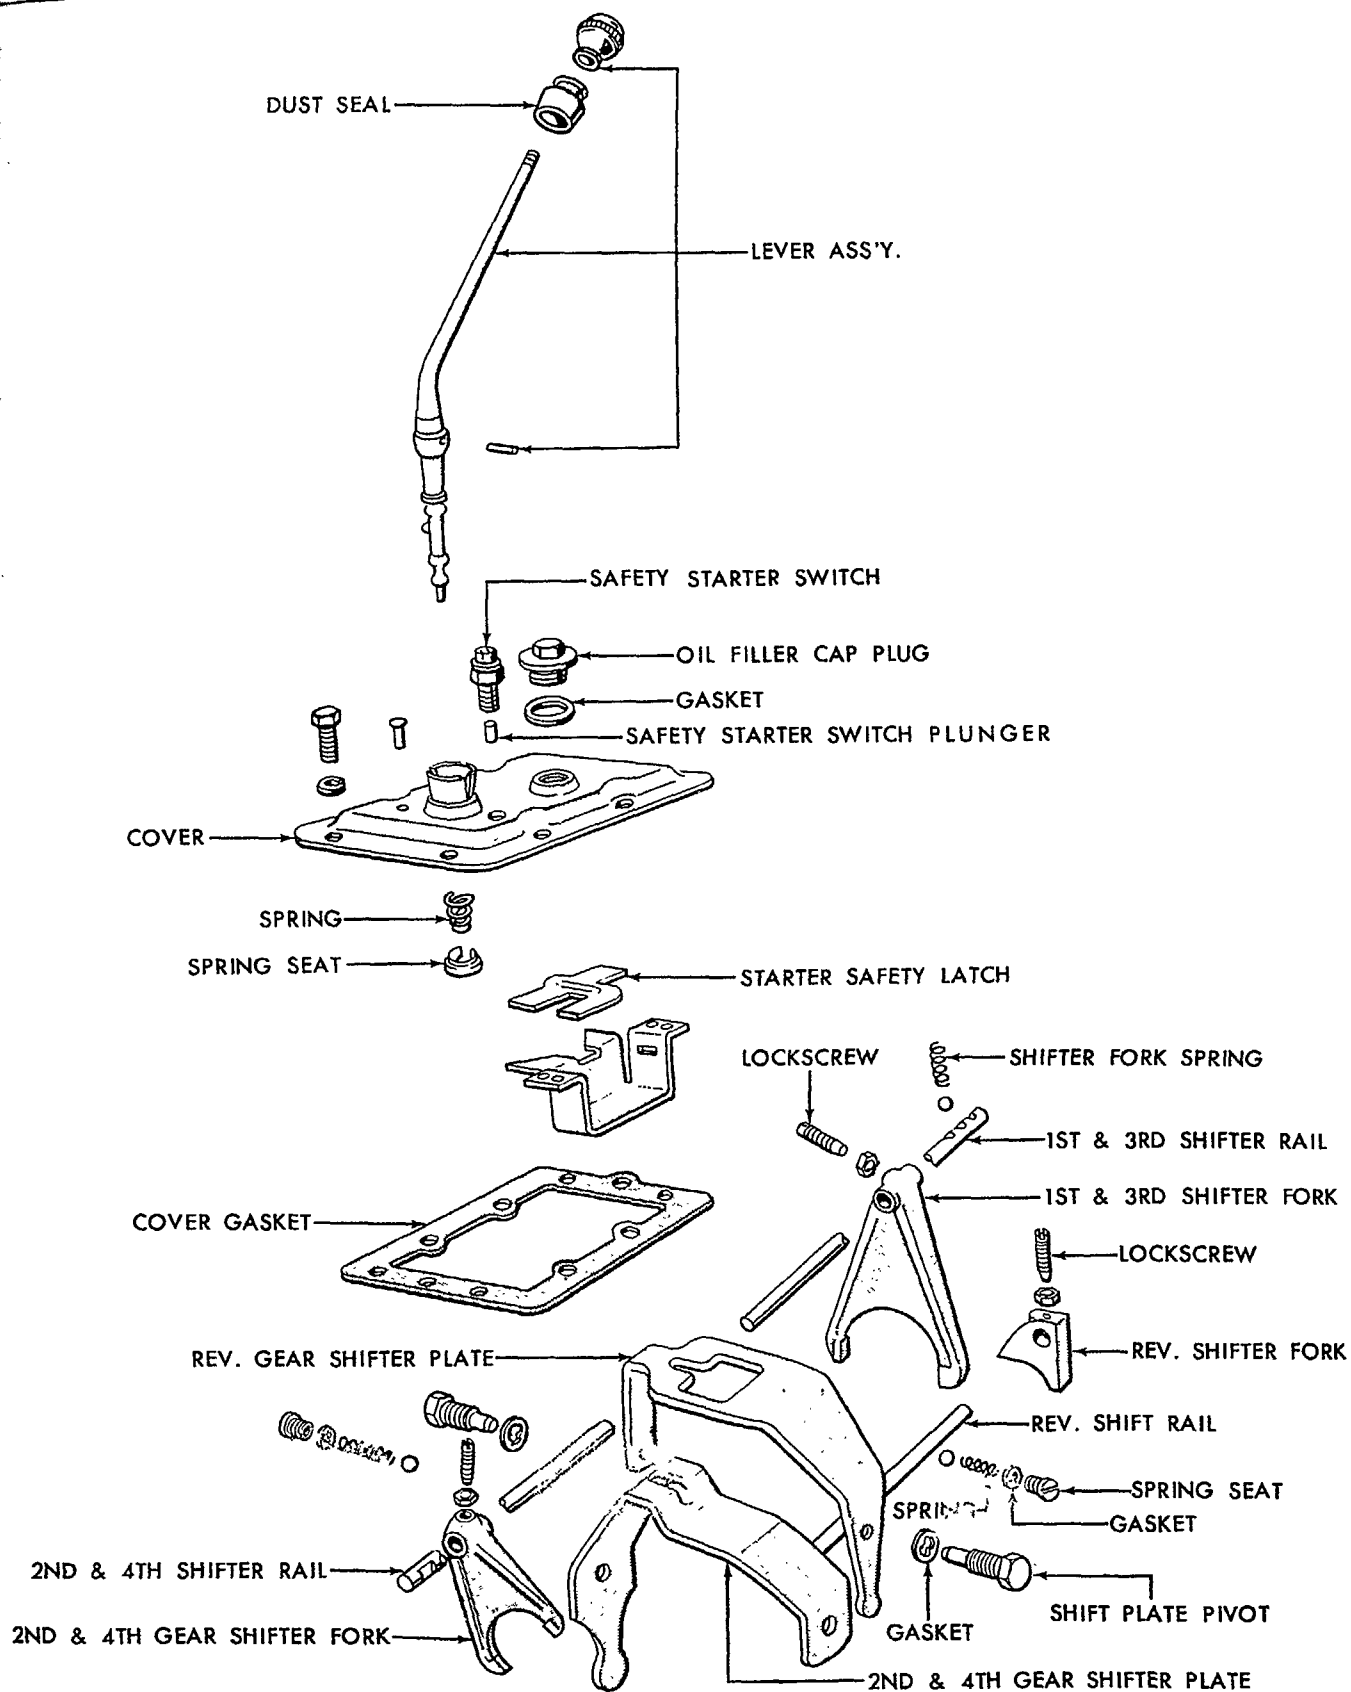

Figure 7
3. Remove the safety starter switch and plunger, Figure 7.
5. Loosen the shift lever dust seal from the cover and remove the shift lever from the cover, Figure 7.
2. Remove the shifter fork spring and the detent ball, Figure 7, that are held in place by the cover.
5. Loosen the lock nut on the lock screw in the 1st and 3rd gear shifter fork, Figure 7. Back off the screw and slide the shifter rail out of the transmission case. Remove the shifter fork from its position in the output shaft connector coupling.
6. Remove the shifter plate pivots and gaskets, Figure 7, from each side of the housing and lift the plates out of the case.
8. Lift the output shaft gear assembly out of the case. It may be necessary to push the reverse gear shifter fork and 2nd and 4th gear shifter fork, Figure 7, toward the front of the case to provide clearance for removing the output shaft.
9. Remove the shifter rail spring seat, gasket, spring and detent ball from the right side of the transmission case. Loosen the lock nut on the lock screw in the 2nd and 4th gear shifter fork, Figure 7, and back off the screw. Remove the shifter rail cap plug from the rear of the transmission case and pull the shifter rail out of the case. Remove the shifter fork from its position in the countershaft connector coupling.
12. Remove the reverse shifter rail spring seat, gasket, spring and detent ball from the left side of the transmission case, Figure 7.
13. Loosen the lock nut on the lock screw in the reverse gearshift fork, Figure 7, and back off the lock screw. Remove the shifter rail cap plug from the rear of the transmission case and pull the reverse gearshift rail out of the housing. Remove the shifter fork from its position on the reverse idler driven gear, Figure 7.